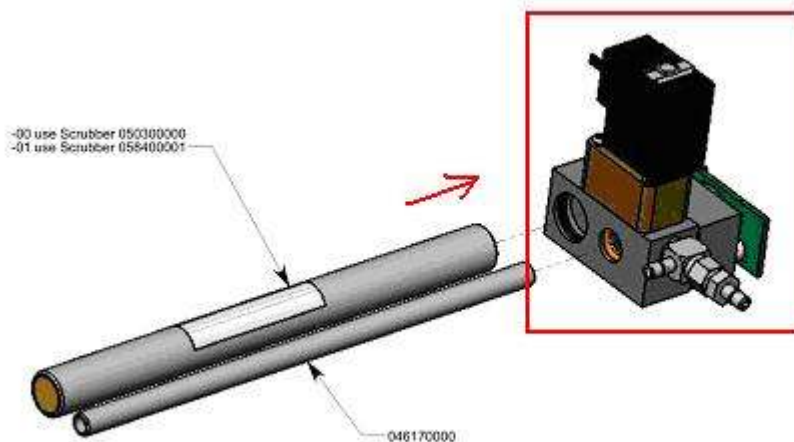

Figure 6.
6. Keeping a hold on the inlet manifold shown on figure 6 that you are unscrewing, remove the screws and gently pull the manifold away from the absorption tube, and reference scrubber.
7. Re-install the new high reference scrubber in place of the old scrubber insuring that the tube is firmly pressed inside the exhaust manifold groove. After the tube is in place, re-seat the inlet manifold marked in figure 6 firmly against the absorption tube, and the scrubber so that the manifold screw mounts can again align with the PCB holes. Tighten the screws snugly in place.